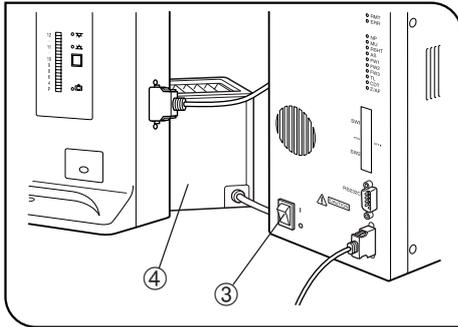

Fig. 2
7. To avoid potential shock hazards and burns when replacing the light bulb, set the main switch ③ to "○" (OFF) then disconnect the power cord from the wall outlet in advance. Whenever you replace the bulb during use or right after use, allow the lamp housing ④ and bulb to cool before touching. (Fig. 2)